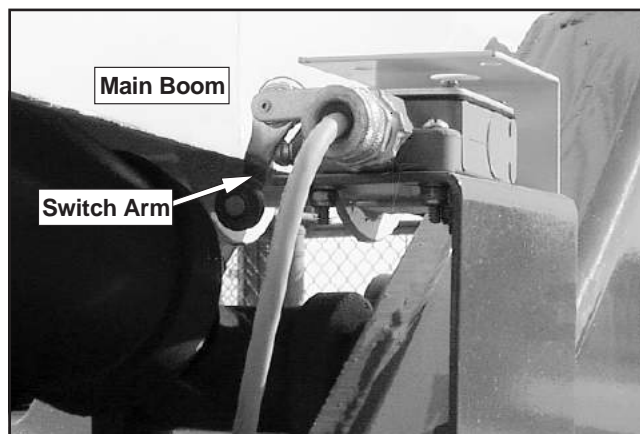

Figure 7.16—Boom Switch
3. Start the engine and raise the main boom about 8' (2.4 m) so the boom switch arm on the right side of the turntable no longer contacts the boom (refer to Figure 7.16).